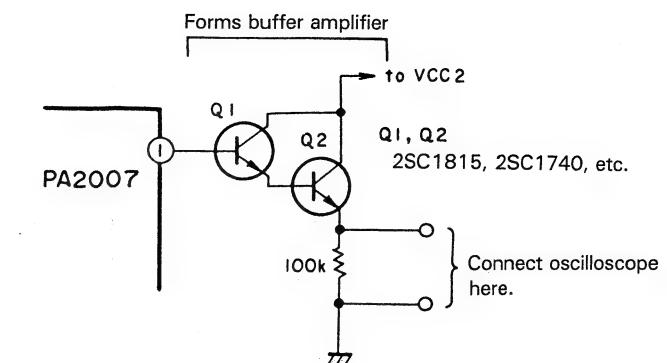

Fig. 9-1 Buffer Amplifier
- Connect a buffer amplifier to pin ① of the circuit board unit PA2007 (Fig. 9-1) and connect the output to an oscilloscope.